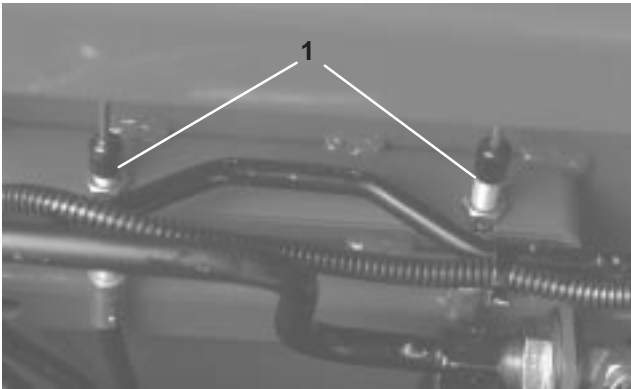

Figure 63
2. To reduce free travel of brake pedals, tighten the brakes by loosening the front nut on the threaded end of the brake cable (Fig. 63). Then tighten rear nut to move cable backward until brake pedals have 1/2 to 1 inch of free travel. Tighten front nuts after brakes are adjusted correctly.